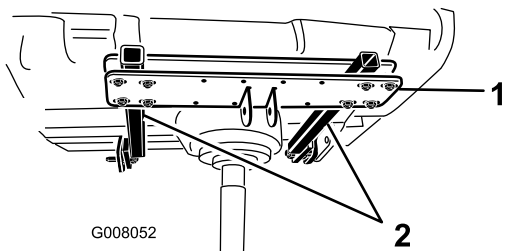

Figure 5
2. Loosely mount the support arms to the hitch cross with (8) 1/2 x 4 inch screws, (16) washers and (8) locknuts. Position as shown in Figure 5.